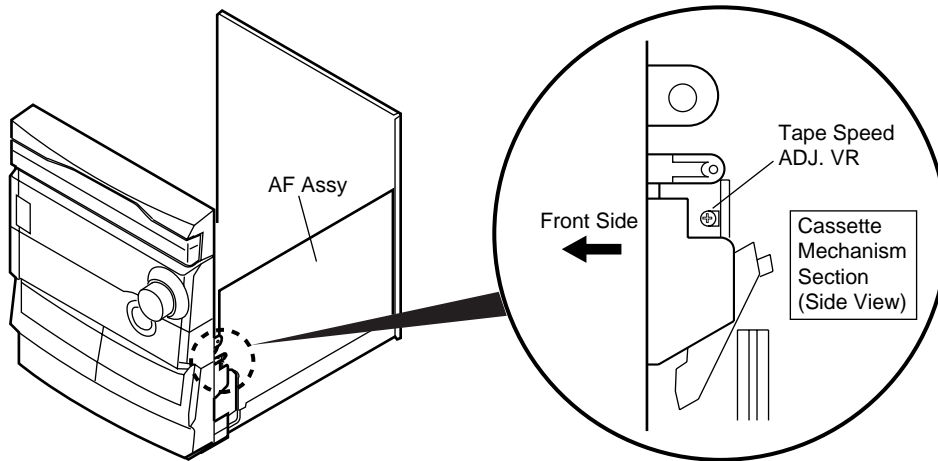

Fig.3 Tape Speed ADJ. Point
• Adjustment points and test points are shown in Fig.3, Fig.5 and Fig.7.